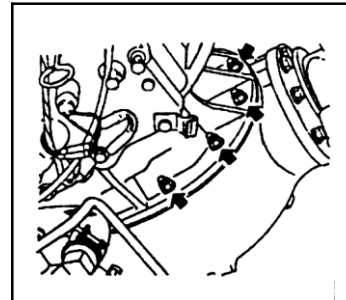

Figure 5-3
- 11) Remove the retaining nut between the axle housing and differential (see Figure 5-3).